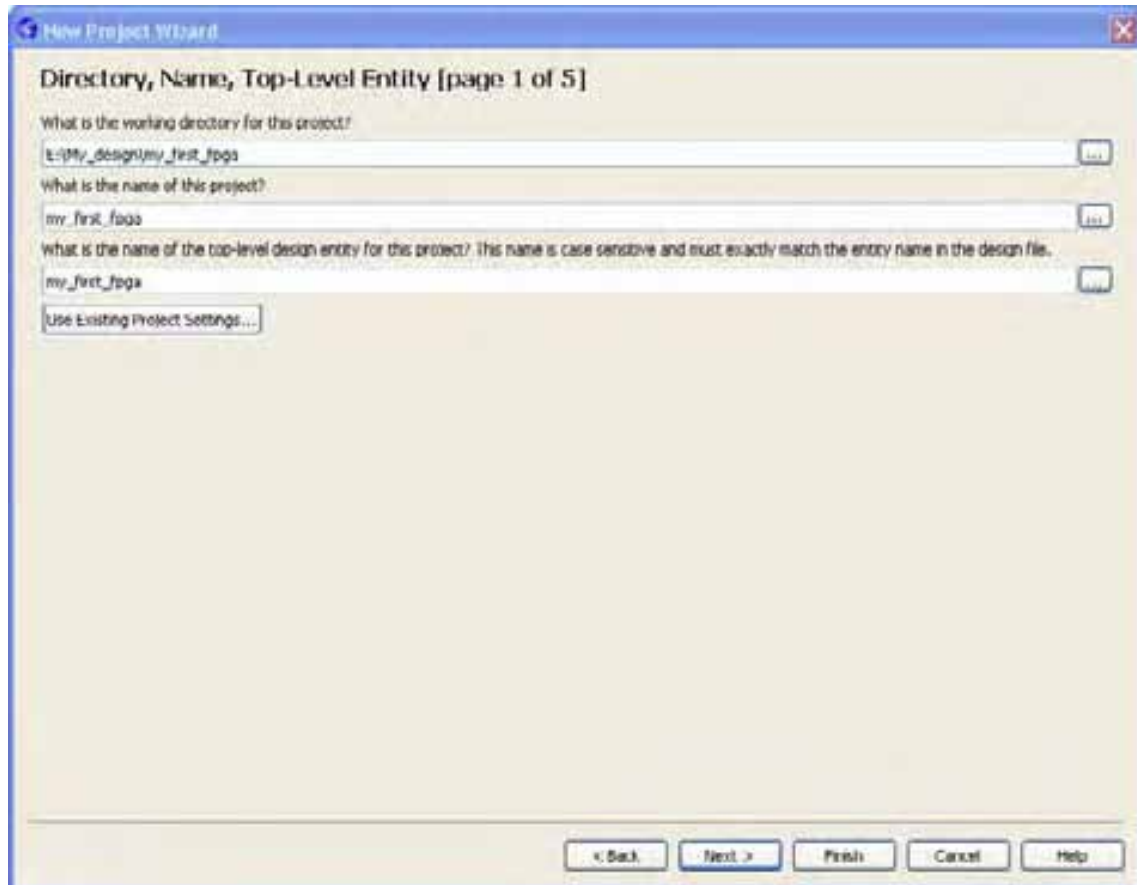

Figure 6-9 Project information
- c. What is the name of the top-level design entity for this project? Type **my_first_fpga**. See **Figure 6-9**.